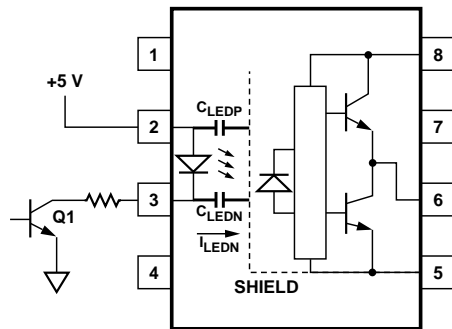

Figure 24. Not Recommended Open Collector Drive Circuit.
Step 1: Calculate R_g minimum from the I_{OL} peak specification. The IGBT and R_g in Figure 24 can be analyzed as a simple RC circuit with a voltage supplied by the HCPL-314J.
The open collector drive circuit, shown in Figure 24, can not keep the LED off during a $+dV_{CM}/dt$ transient, since all the current flowing through C_{LEDN} must be supplied by the LED, and it is not